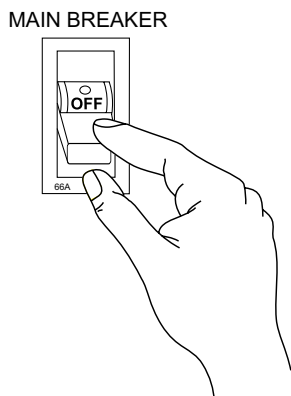

Figure 38. Main Circuit Breaker (OFF)
1. Place the **main**, circuit breaker (Figure 38) in the **OFF** position prior to starting the engine.